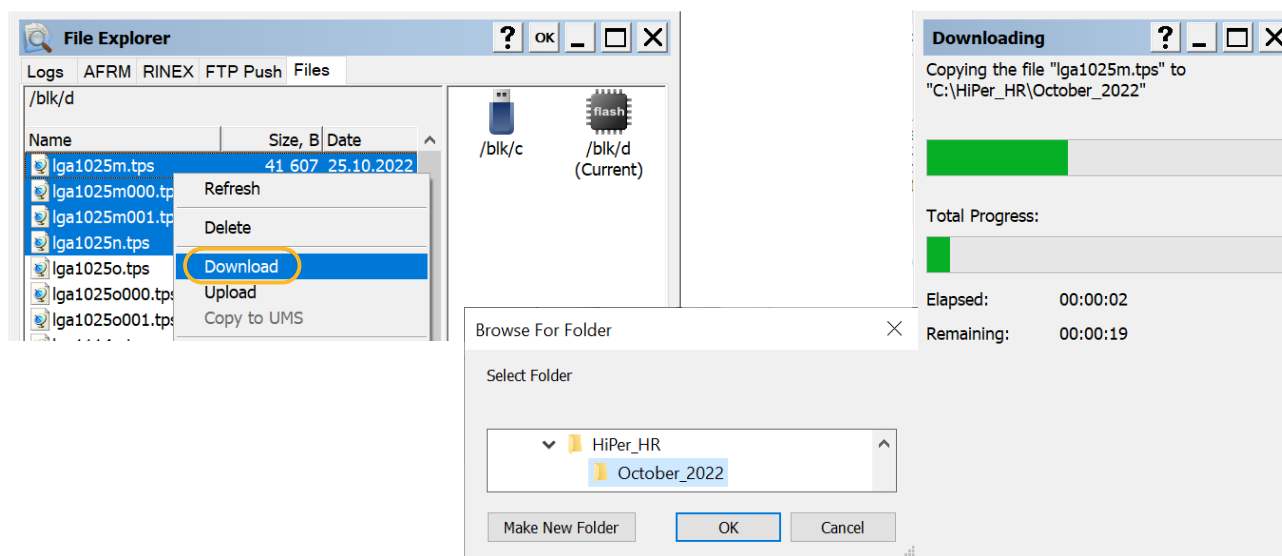

Figure 7-18: Downloading “*.tps” data files to Computer
2. Right-click on the desired file(s) to open the context menu and select **Download** (Figure 7-18).
3. Select the folder where the “*.tps” file(s) will be saved (Figure 7-18).
4. Select **OK**. TRU downloads the selected file(s) to the folder (Figure 7-18).